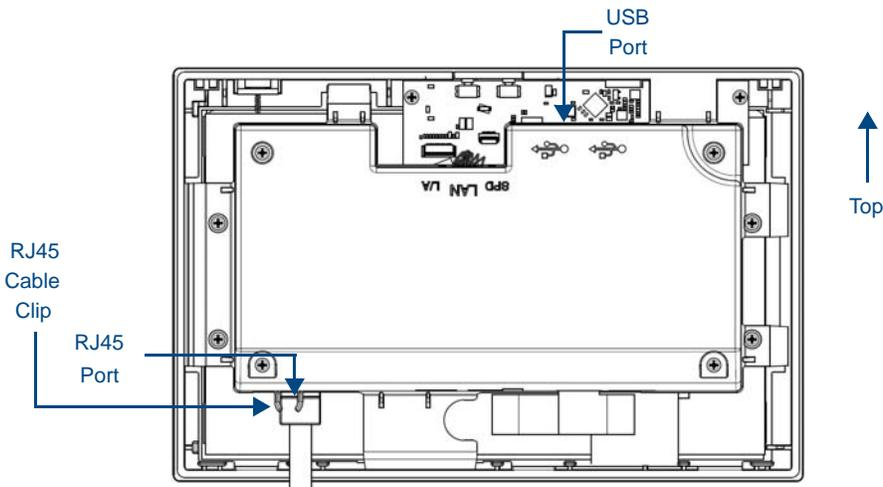
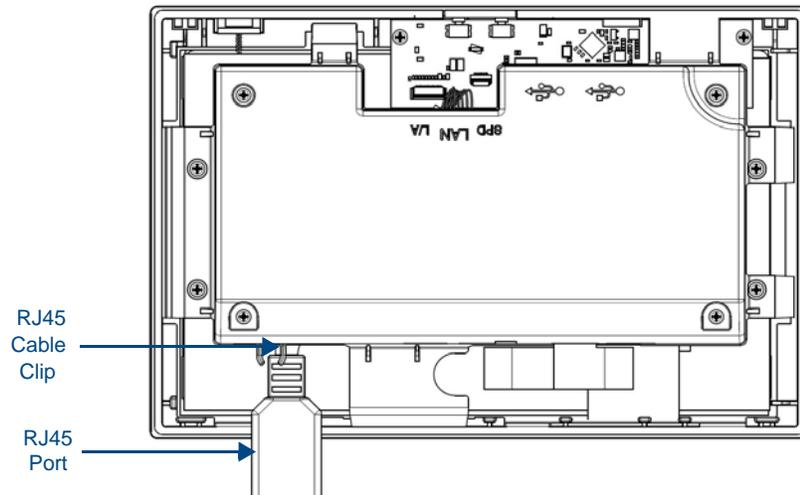

FIG. 13 Rear of the MXD-701 (Landscape)
FIG. 14 Rear of the MXD-701 (with RJ45 connection extended)
Power for the MXD-701 is supplied via Power Over Ethernet (PoE), utilizing an AMX-certified, capacitive touch-compliant PoE injector or other approved AMX PoE power source. The incoming Ethernet cable should be connected to the RJ45 port on the MXD-701 (FIG. 13 and FIG. 14).
- Insert each connector into its corresponding location along the back of the device (FIG. 13). To reach the RJ45 connector, gently pull it from beneath the electronics cover (FIG. 14). Attach the Ethernet cable and gently push the connection back under the cover.